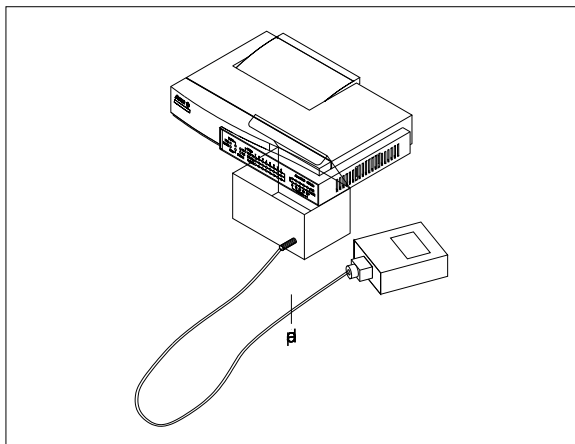

Figure 2-2 Put the hub on desktop and find the proper power adapter
2.1.2 Place the hub on the desktop and remove the packing box of the power adapter, as shown in Figure 2-2.